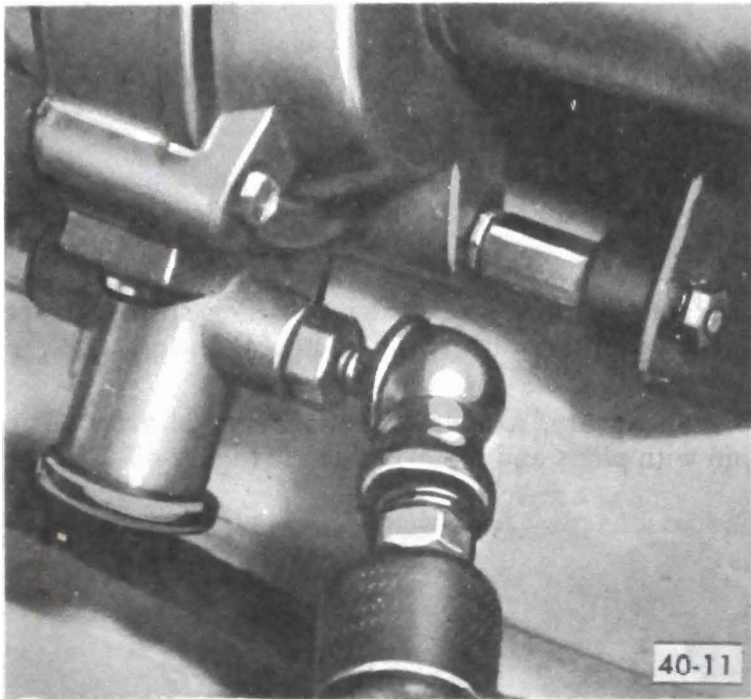

Figure 40-34 - Filling System Through Service Valve
3. Inflate system through service valve to maximum available pressure. See Figure 40-34. If available pressure is less than 140 psi. start engine to build up reservoir to this pressure.